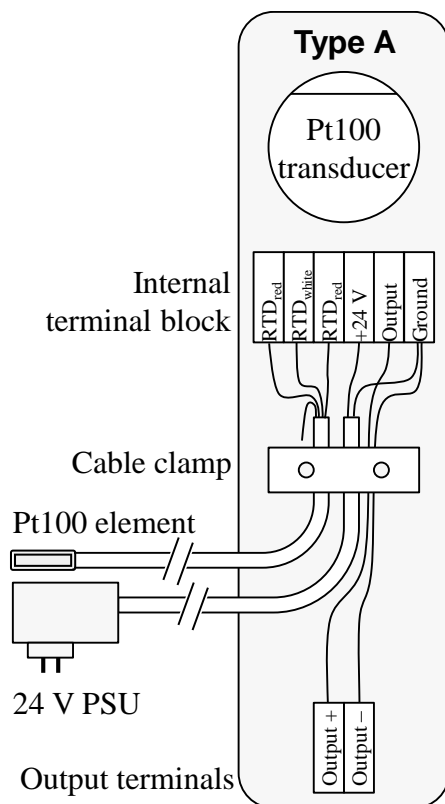

Figure 1: Board overview
* The board type is specified on top of the board, as illustrated in Figure 1.
An overview of the transducer board is shown in Figure 1. The connection diagram is shown in Figure 1. Up to 5 W power can be drawn from the board for external equipment.